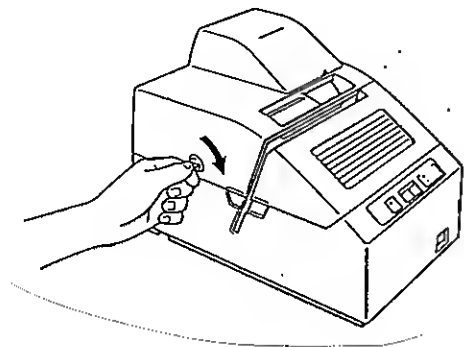

Fig. 1
- 1) For the model equipped with the paper cover lock, insert the cover lock key into the cover lock and turn it 90 degrees to the frontward to open the lock (Fig. 1).